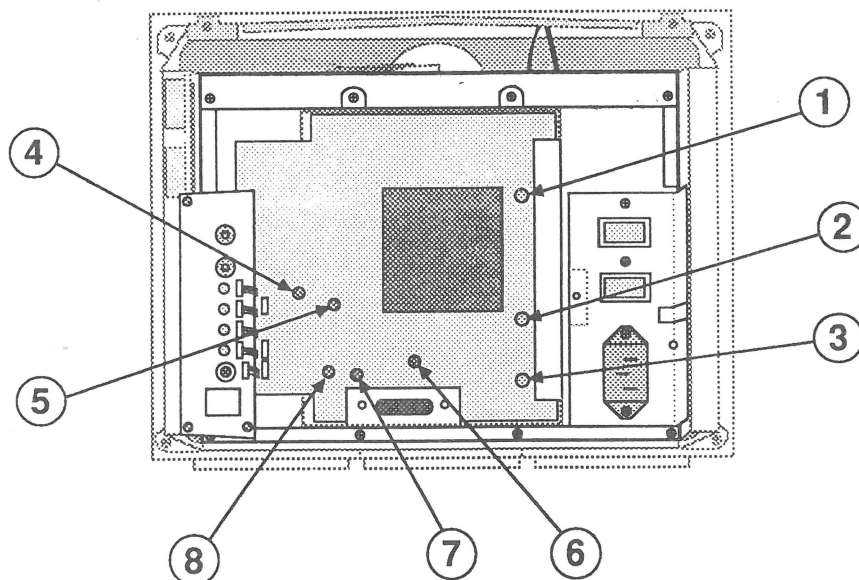

FIGURE 8
- B.BKG (Figure 8, #1)
- G.BKG (Figure 8, #2)
- R.BKG (Figure 8, #3)
- R.DRIVE (Figure 8, #4)
- G.DRIVE (Figure 8, #5)
- B.DRIVE (Figure 8, #6)
- SUB CONT (Figure 8, #7)
- SUB BRT (Figure 8, #8)
5. Alternately adjust the **background** controls—B.BKG (Figure 8, #1), G.BKG (#2), and R.BKG (#3)—so that:
6. Now adjust the G.DRIVE control (Figure 8, #5) clockwise or counterclockwise until the brightest bar (bar 8) measures at the mid "9" scale of the light meter. Refer to "Using Light Meter To Measure Luminance" later in this section for more information.
7. Next, adjust the R.DRIVE and B.DRIVE controls (Figure 8, #4 and #6) clockwise or counterclockwise until there is no predominant color in the 3 brightest bars (bars 6, 7, 8). Repeat steps 6 and 7 as necessary.